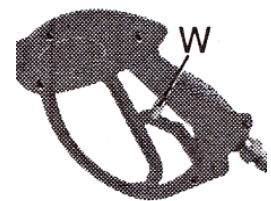

Fig. 15: Trigger Lock
- d. Depress trigger on gun to start water flow. Release trigger to stop water. Engage trigger lock (W) when gun is not in use to prevent accidental spraying (Fig. 15).